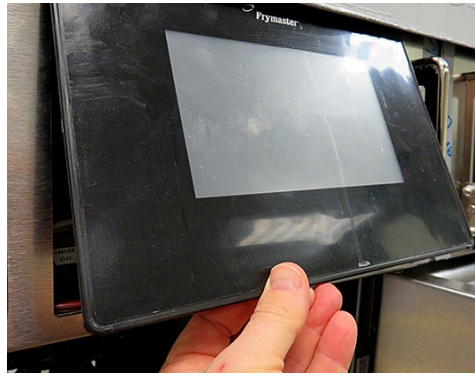

Figure 10
- 14. Lift the controller out from the bezel (see Figure 10).